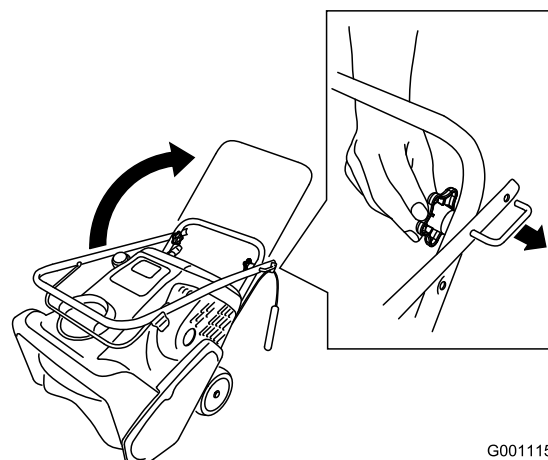

Figure 3
2. Loosen the knobs, pull out the handle bolts, and rotate the upper handle to the operating position (Figure 3).